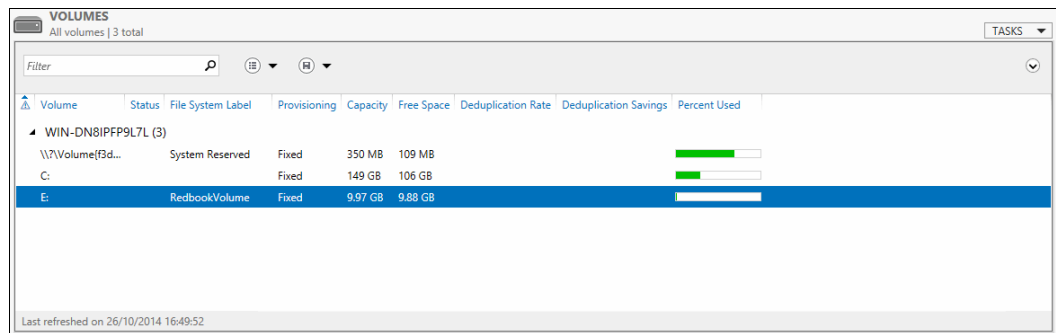

Figure 5-43 The new volume listed under the Volumes view
8. The new volume displays under the Volumes view of **File and Storage Services**, as shown in Figure 5-43.